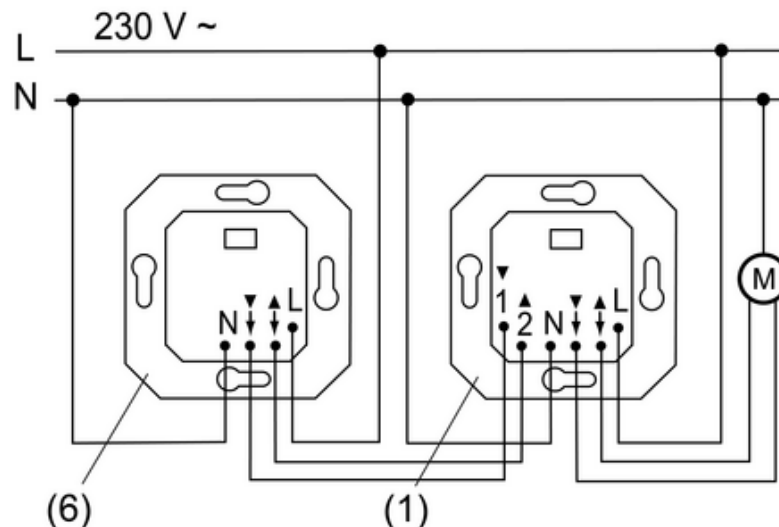

Figure 2: Control with extension
- Venetian blind control (1) for local control. Optional: Connection of an extension (6) (figure 2). A mechanical blind button or blind switch can also be used as an extension instead of the venetian blind control.